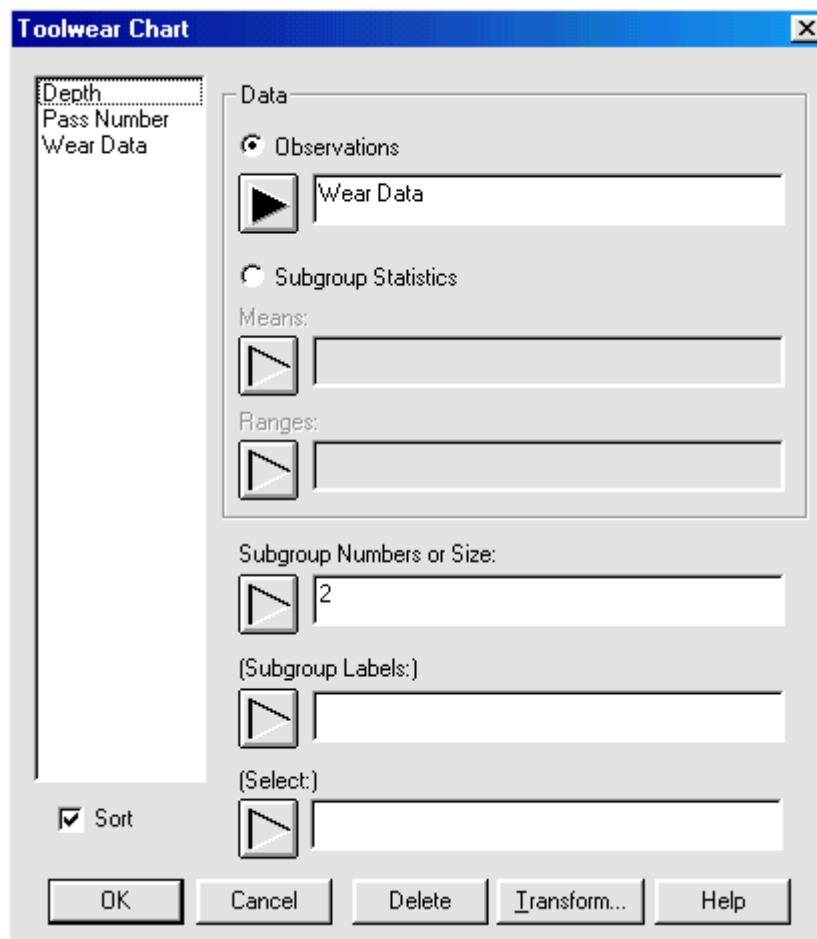

Figure 7-30. Toolwear Chart Analysis Dialog Box
1. Choose **SPECIAL... QUALITY CONTROL... SPECIAL PURPOSE CONTROL CHARTS... TOOLWEAR CHART...** to display the Analysis dialog box (see Figure 7-30).